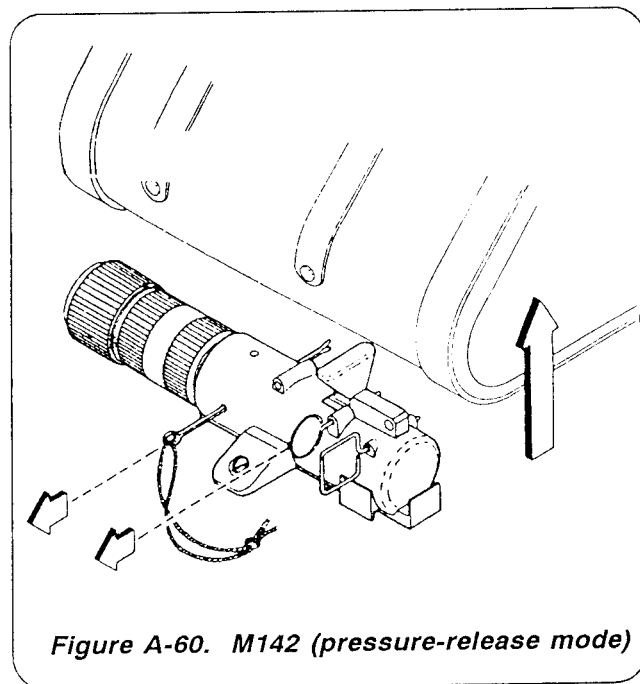

Figure A-60. M142 (pressure-release mode)
- Pressure-release (between 2 and 150 pounds) (Figure A-60).